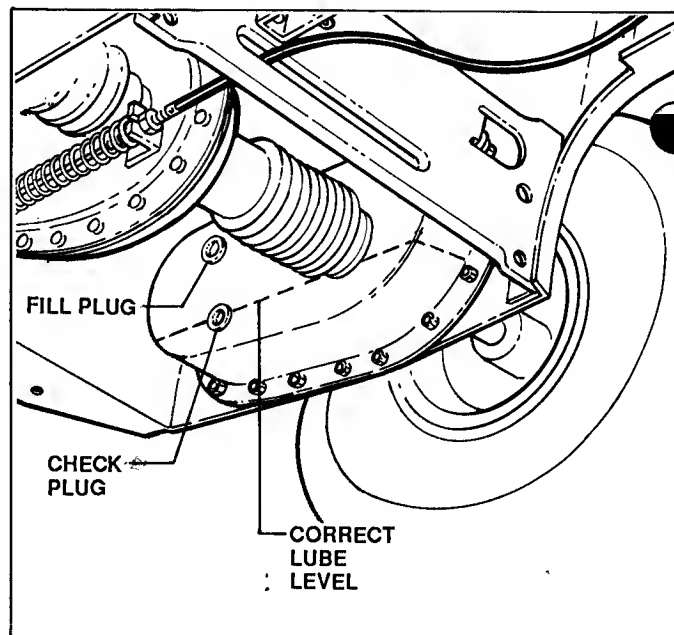

FIGURE 16
- **CHECK GREASE LEVEL** by removing CHECK PLUG on inside of unit shown in Figure 16 to check level of oil. Add **SNAPPER "0"** grease as needed thru upper fill hole to bring the level up to the lower edge of the CHECK PLUG hole. Reinstall NEW plugs after servicing.
- **CHAIN CASE:** Remove plug and check. If dry, add one ounce of **SNAPPER "0"** grease—do not overfill. Total capacity must not exceed 2 ounces. See Figure 16.